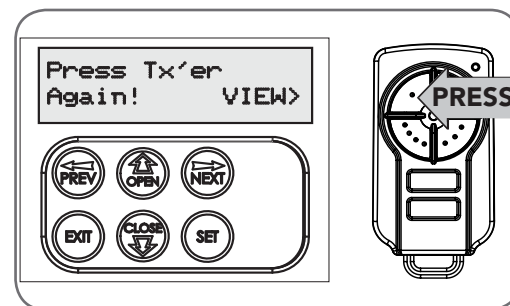

Fig 10.4
- Press the same transmitter button again as prompted by the display (Fig. 10.4).